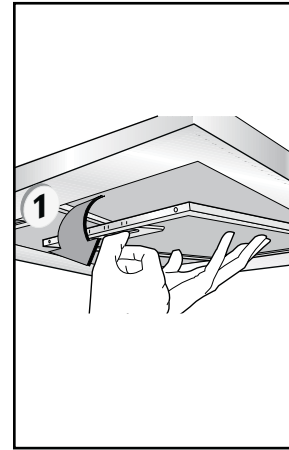

Fig.1C
- Remove the anti-grease filter/s (Fig.1C).
- The appliance must be installed at a minimum height of 26 inches (66 cm) from an electric cooker stove, or 30 inches (76,2 cm) from gas or combined cooker stoves. If a connection ductwork composed of two parts is used, the upper part must be placed outside the lower part. Do not connect the range hood exhaust duct air to the same duct air used to exhaust hot air or fumes from other appliances other than electrical. Before proceeding with the assembly operations, remove the anti-grease filters (Fig. 1C) so that the unit is easier to handle.